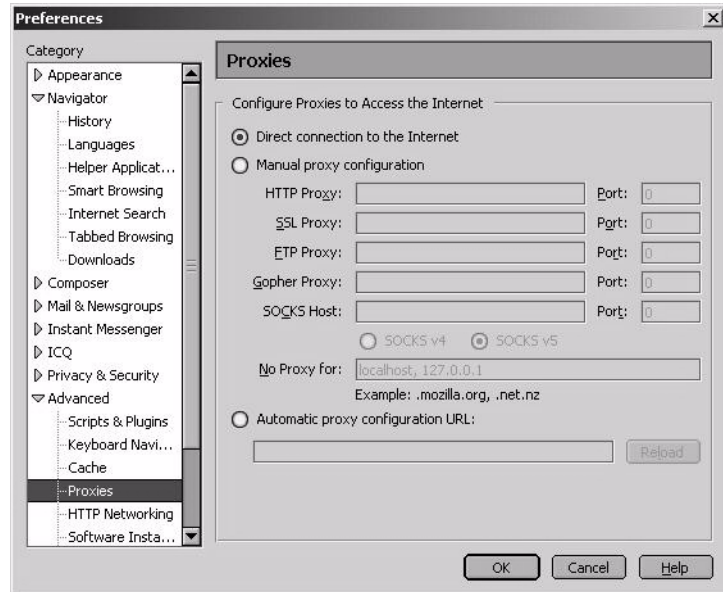

Figure 81: Accessing proxy settings: Netscape
3. Select **Edit** → *Preferences* to access the Preferences window shown in Figure 81.